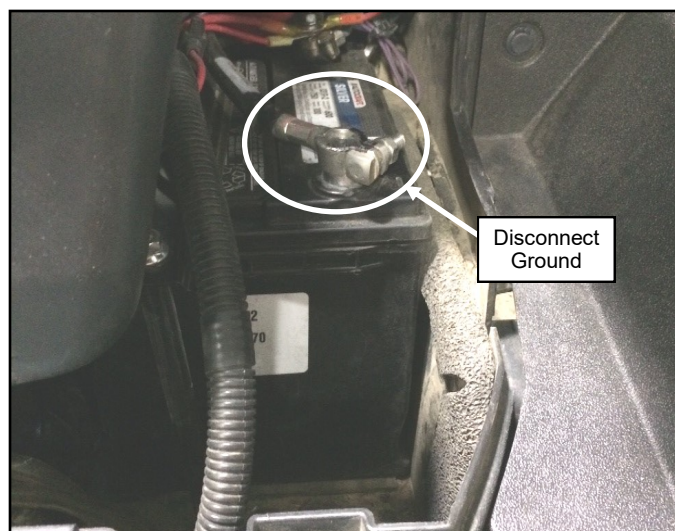

Fig. 2.15 (Disconnect Ground On Battery)
**2.15** Disconnect the ground from the battery as shown in fig. 2.15.